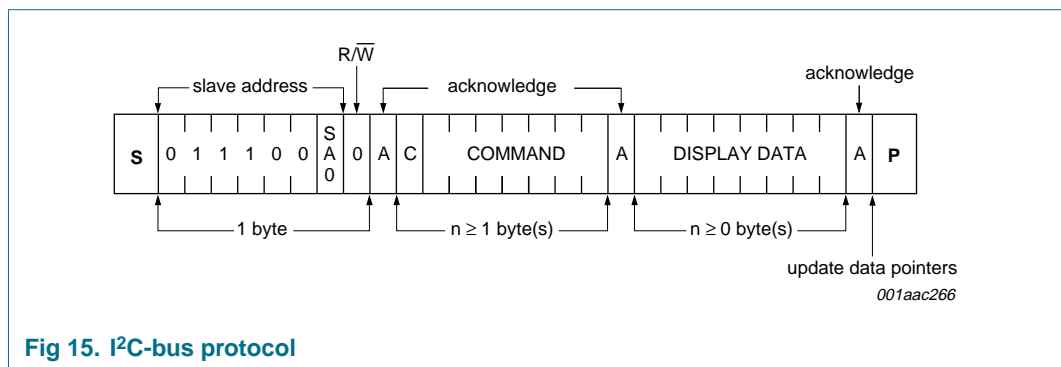

Fig 15. I2C-bus protocol
The I2C-bus protocol is shown in Figure 15. The sequence is initiated with a Start condition (S) from the I2C-bus master which is followed by one of two possible PCF8562 slave addresses available. All PCF8562s whose SA0 inputs correspond to bit 0 of the slave address respond by asserting an acknowledge in parallel. This I2C-bus transfer is ignored by all PCF8562s whose SA0 inputs are set to the alternative level.